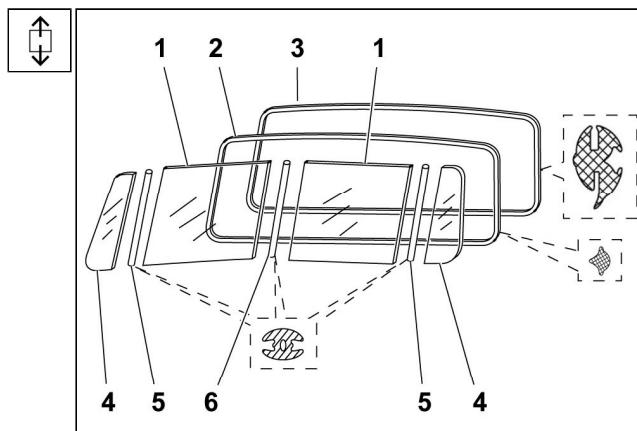

Fig. 13.39 Windshield glasses
1. Fit center **6** and corner **5** seals between individual glasses **1** (See Fig. 13.39) and **4** on a flat surface.